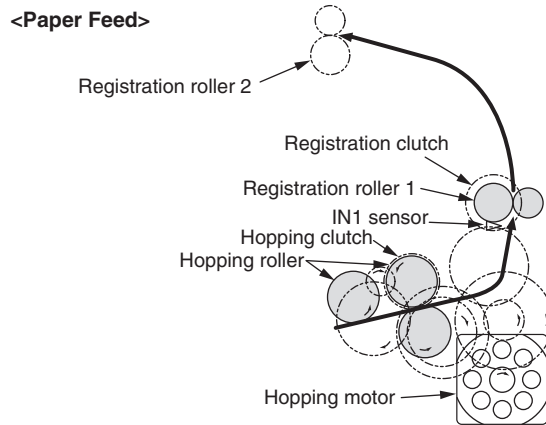

Figure 2-1
1. As illustrated in Figure 2-1, when the hopping clutch is ON, the hopping motor is driven (to clockwise), transporting the paper until the IN 1 sensor comes ON. (When the hopping clutch is ON, the paper feed roller is driven.)